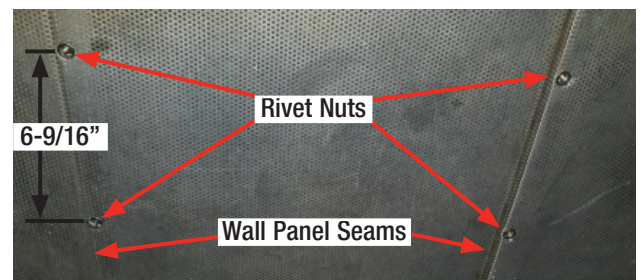

Figure 2: Wall Panel with Rivet Nut Inserts
6. Using 25/64" bit, drill 4 holes through wall panel on the side of the seam. The height from the holes should be the same as the FH239 bracket, approximately 6-9/16" apart vertically (see figure 2).